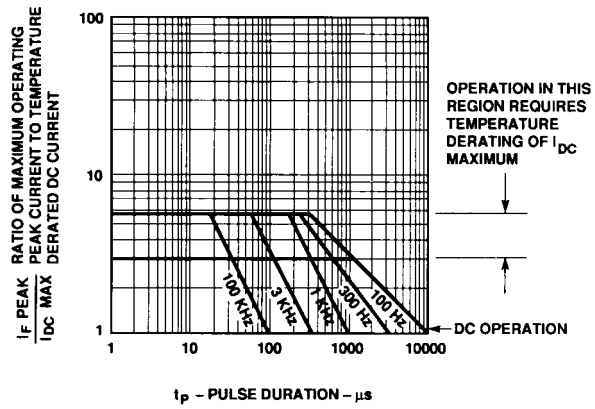

Figure 7. Maximum Tolerable Peak Current vs. Pulse Duration - Yellow.
- See Figure 7 to establish pulsed conditions.